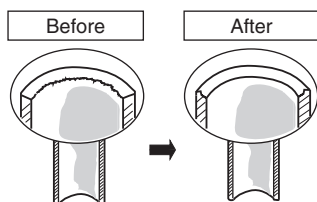

Fig. 5-1
- (1) Cut the copper tube to the required length with a tube cutter. It is recommended to cut approx. 30 – 50 cm longer than the tubing length you estimate.
- (2) Remove burrs at each end of the copper tubing with a tube reamer or file. This process is important and should be done carefully to make a good flare. Be sure to keep any contaminants (moisture, dirt, metal filings, etc.) from entering the tubing. (Figs. 5-1 and 5-2)